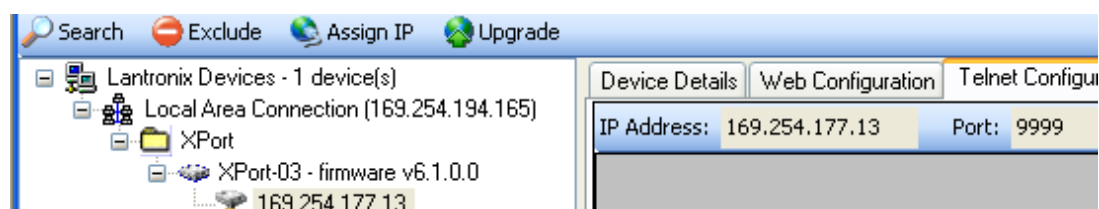

Figure 15 Device Installer - Telnet Configuration
- Click the “Telnet Configuration” tab and click “Connect” (Figure 15). Leave the IP address and port as is. Afterwards, press Enter to enter Setup Mode. This will list the various parameters set up in the Serinus and will give you menu options to change them.